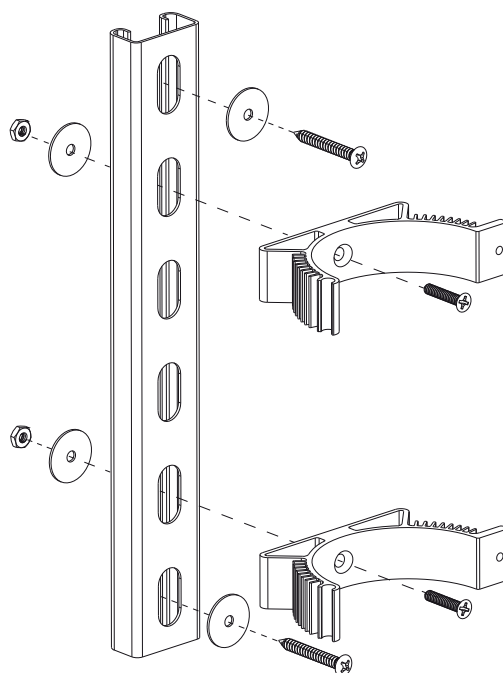

Figure 4 Wall Mounting Bracket
5. Mount the controller horizontally to a wall near the chamber. Ideally place the controller above the chamber and away from any water connection point, to prevent any water from potentially leaking onto the controller by means of a leak at a connection point or a “sweating” system. Make sure you allow for a “drip-loop” as shown in Figure 4 on the lamp, sensor, and power cord, again, to prevent any water from potentially entering the controller.